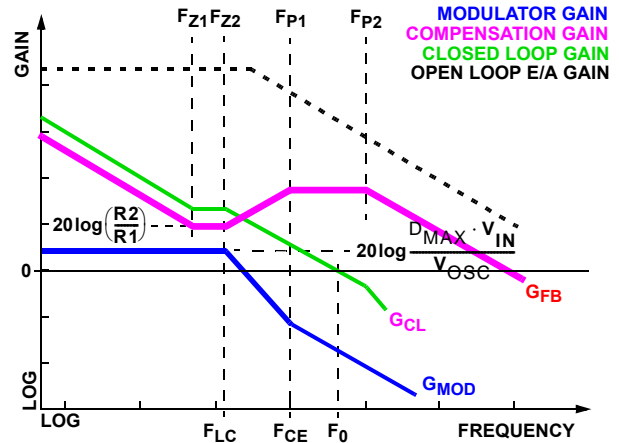

FIGURE 8. ASYMPTOTIC BODE PLOT OF CONVERTER GAIN
Figure 8 shows an asymptotic plot of the DC/DC converter's gain vs. frequency. The actual Modulator Gain has a high gain peak dependent on the quality factor (Q) of the output filter, which is not shown. Using the above guidelines should yield a compensation gain similar to the curve plotted. The open loop error amplifier gain bounds the compensation gain. Check the
compensation gain at F_{P2} against the capabilities of the error amplifier. The closed loop gain, G_{CL} , is constructed on the log-log graph of Figure 8 by adding the modulator gain, G_{MOD} (in dB), to the feedback compensation gain, G_{FB} (in dB). This is equivalent to multiplying the modulator transfer function and the compensation transfer function and then plotting the resulting gain.